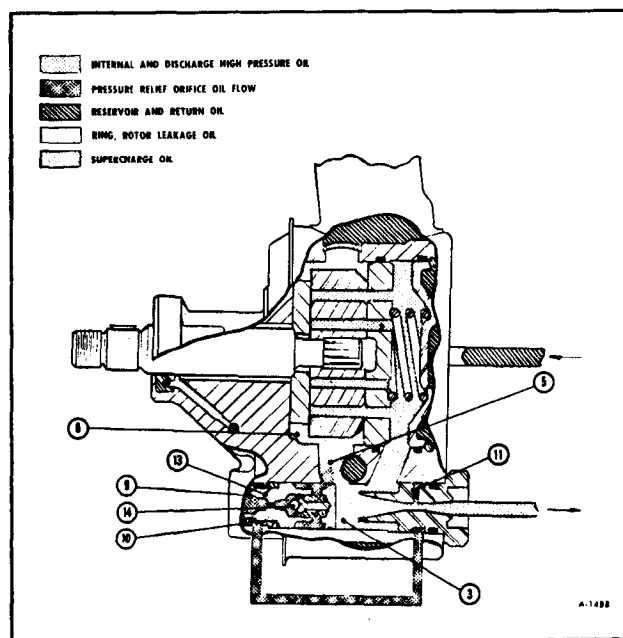

Figure 6-Pressure Relief
**Cornering Against Wheel Stops (Figure 6)**